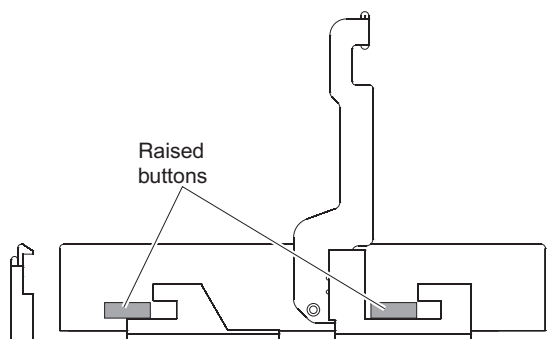

Figure 76. Aligning the drive
b. Align the two raised buttons on each side over the matching gap in the drive channel on the drawer, as shown in Figure 76.